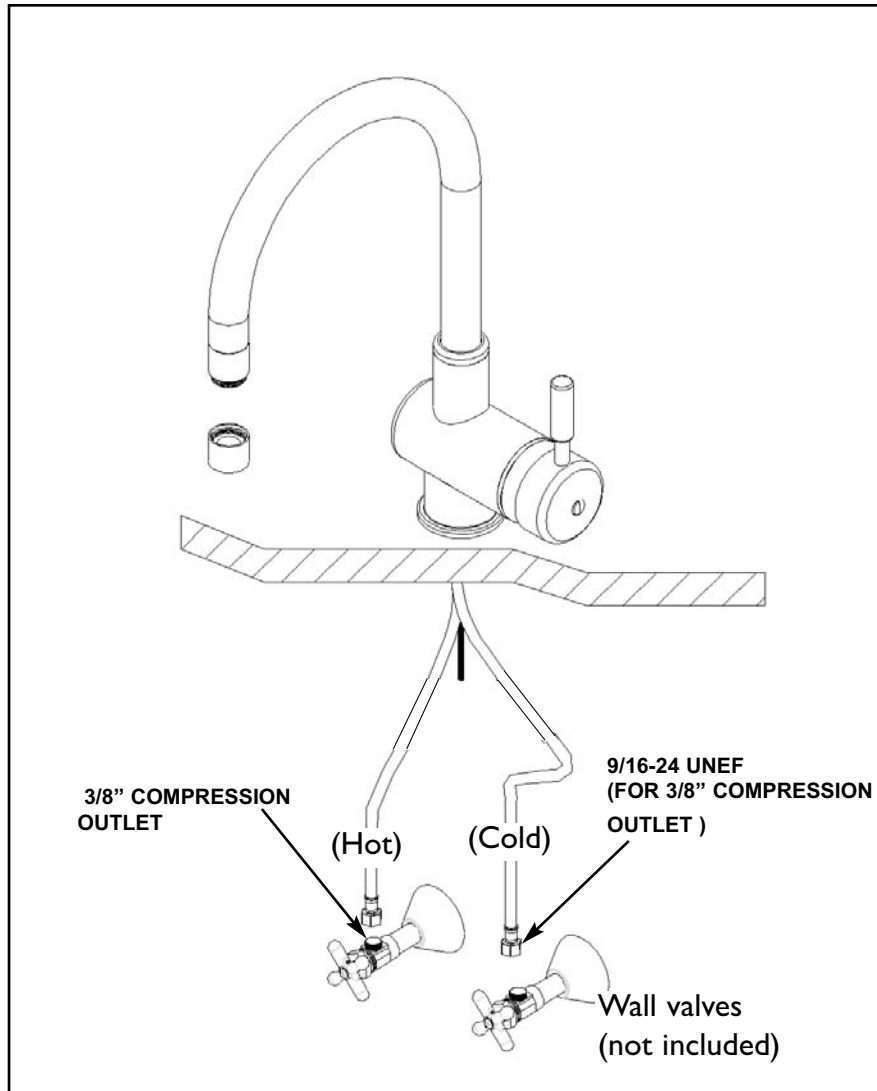

Figure 2
2. ATTACHING WATER CONNECTIONS TO SUPPLY (See Fig 2)
Attach faucet 1/2 MIP HOSES (6) to risers and water supply valves not included. **See Figure 2.**